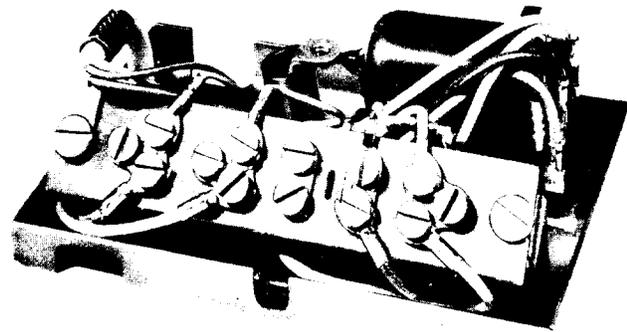
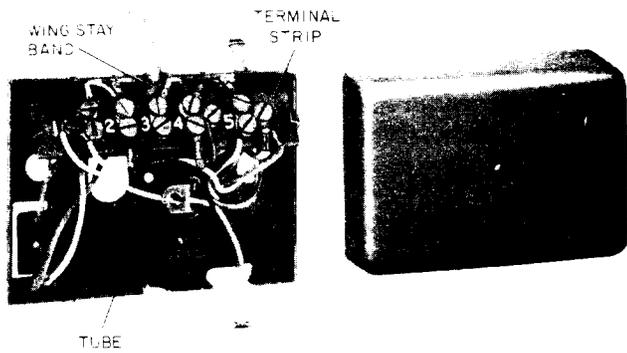

Fig. 3—74-Type Connecting Block With New Cord Stay Arrangement and Screw-Mounted Terminal Strip
Fig. 2—74-Type Connecting Block With Wing Stay Band
#### 74-TYPE CONNECTING BLOCK (Fig. 2, 3, and 4)
**3.01** The 74-type connecting block may be mounted on all types of surfaces. Backboards should be used only when mounting on damp walls and when use of a backboard will facilitate installation. Provision is made in the base of the connecting block for entrance of inside wiring and cords with winged stays (Fig. 2). Cords with loop stay hooks are fastened under the cover screw or on terminal strip (Fig. 3). Terminate conductors of inside wire and cord in accordance with connection section for the telephone set.